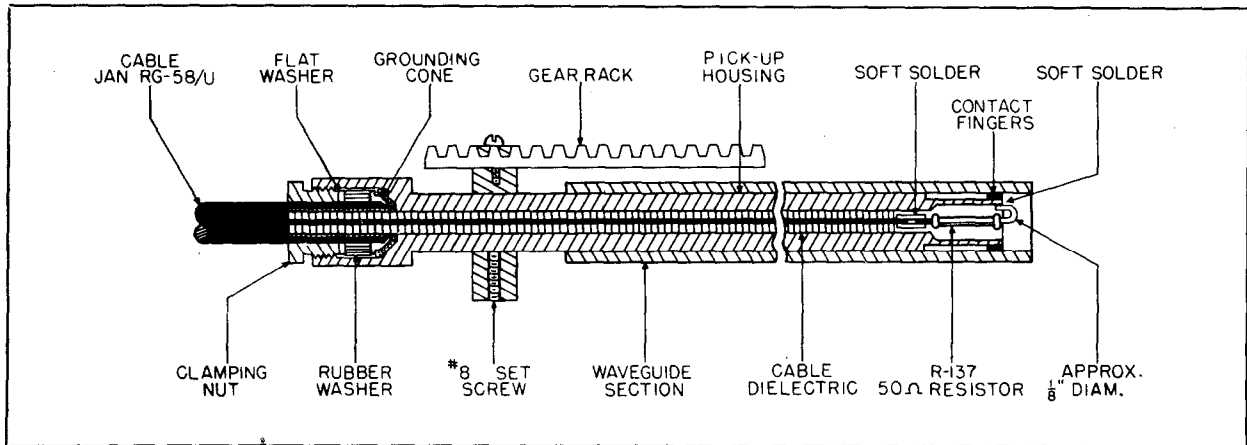

Figure 4-47. Cutaway View of Output RF Probe E-101
Resistor R-137 is a 50-ohm resistor especially designed for high frequency use. The resistor is located next to the output attenuator pick-up loop inside the movable RF probe plunger. In the event that it becomes necessary to replace this resistor, refer to figure 4-47 and to the following procedure.
h. Using a pair of long-nose pliers, form the free lead on the thermistor into a loop having an outside diameter of approximately one-eighth inch. The loop should be formed so that it will be in line with the keyway in the collar as shown in figure 4-47.
If the meter pointer will not read as high as the O DBM mark at some or all frequencies, it is necessary to increase the depth of penetration of the pick-up loop. To do this, loosen the two #4-40 set screws in the middle collar of the assembly shown in figure 4-47. Then raise the collar slightly and re-tighten the set screws. Next loosen the two #8-32 set screws in the collar attached to the gear rack, and seat the upper collars against the collar attached to the gear rack. Tighten the two #8-32 set screws. Recheck the operation of the meter at all frequencies and make any further adjustments of the depth of penetration that are found necessary.